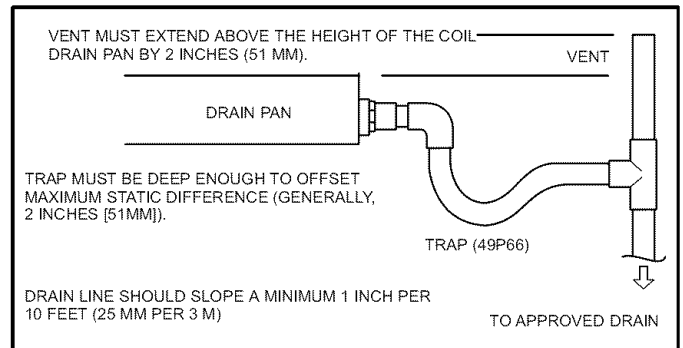

Figure 15. Typical Condensate Drain Connection
1. Install a trap in both drain lines per local codes. If a vent tee is required to reduce friction and static pressure, the trap should be installed between the unit outlet and the vent tee as illustrated in figure 15.